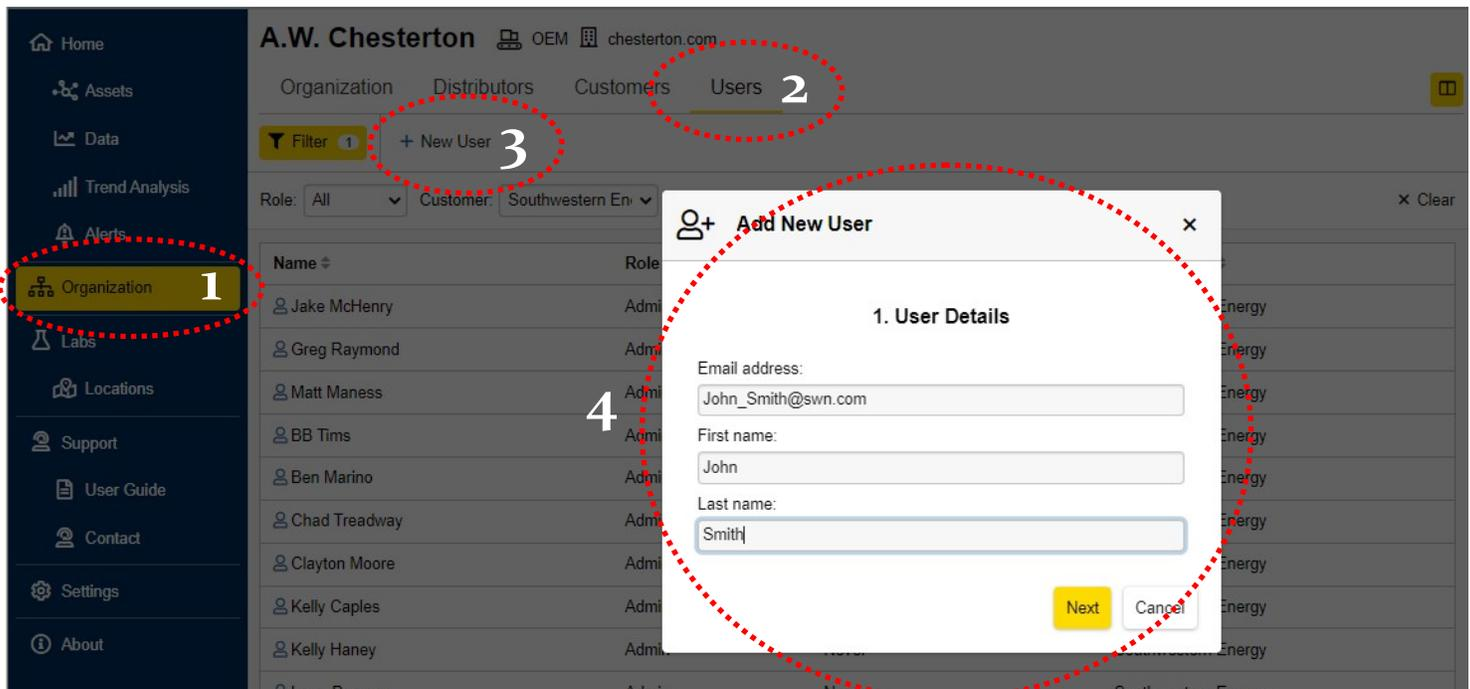

Figure 16
2. Select the **Organization** tab (see figure 16).